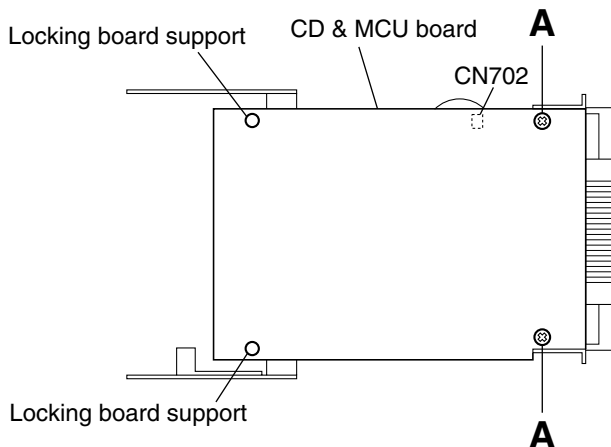

Fig.1
(See Figs. 1 and 2.)
1. From the bottom side of the CD mechanism assembly, remove the two screws **A** retaining the CD & MCU board. (See Fig.1.)
2. Disengage the two locking board supports retaining the CD & MCU board. (See Fig.1.)
3. Disconnect the wires from the two connectors CN702 and CN703 on the CD & MCU board. (See Figs.1 and 2.)